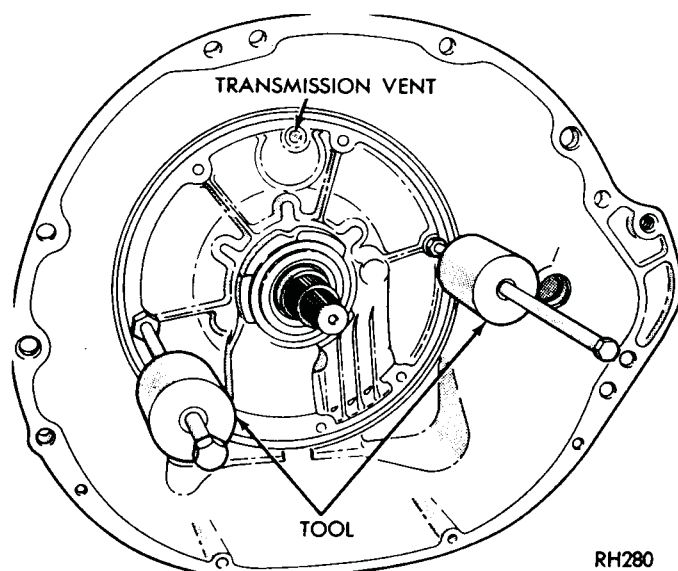

Fig. 7—Remove Oil Pump
(1) Tighten front band adjusting screw until band is tight on front clutch retainer. This prevents clutch retainer from coming out with pump which might cause unnecessary damage to the clutches.
(2) Remove oil pump housing retaining bolts.
(3) Attach Tool C-3752 to pump housing flange, (Fig. 7), in threaded holes in the flange.
(4) Bump outward evenly with the two "knocker weights" to withdraw oil pump and reaction shaft support assembly from the case.